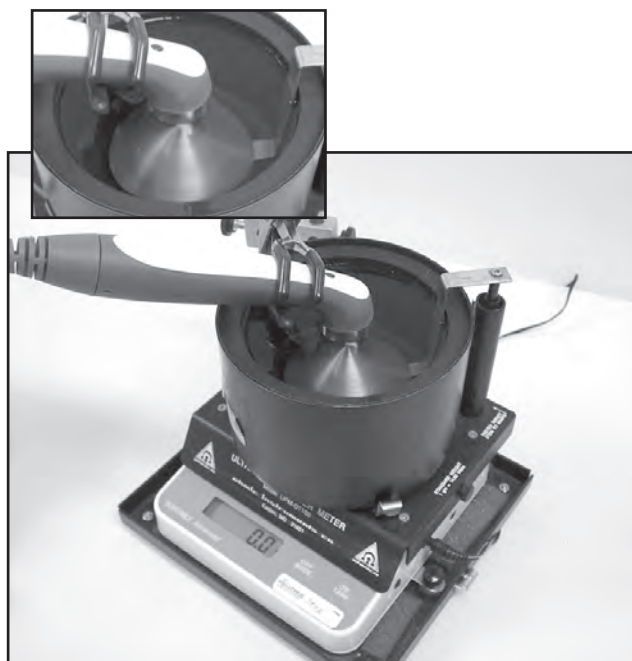

FIGURE 5.14
2. Place an Applicator into the Power Meter retainer. Make certain the Sound Head is completely submerged in the degassed water and centered directly over the Stainless Steel Cone. **See Figure 5.14.**